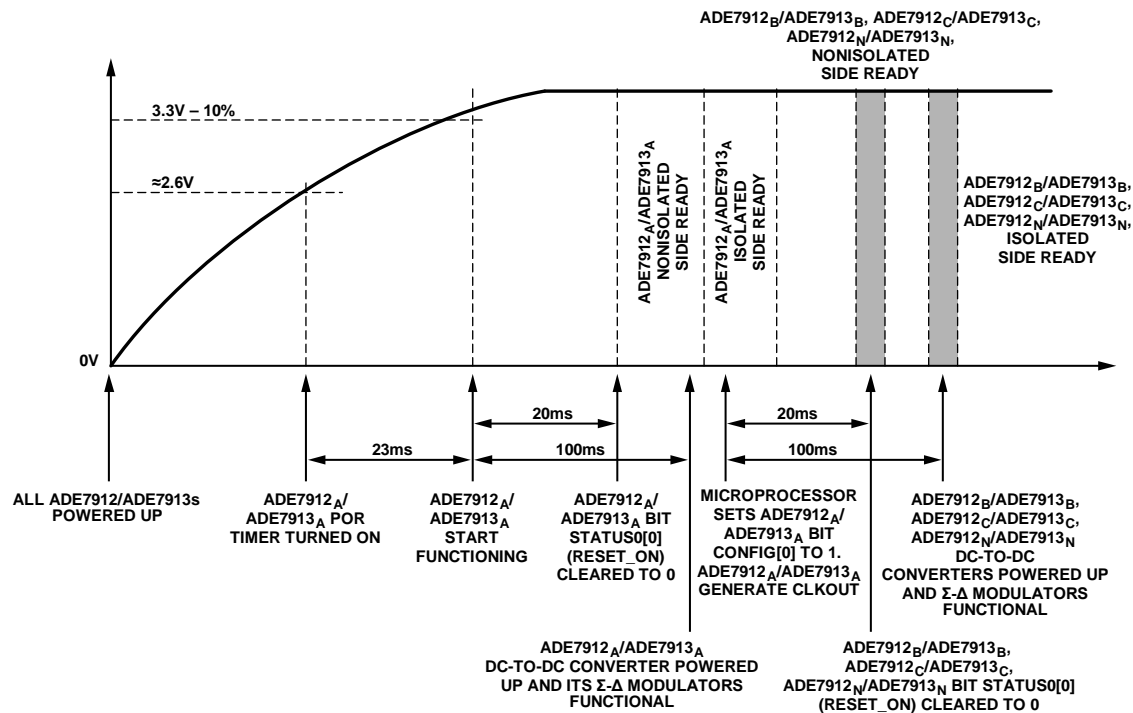

Figure 52. Power-Up Procedure for Systems with Multiple ADE7912/ADE7913 Devices; Only Phase A ADE7912/ADE7913 Are Clocked from a Crystal
For the polyphase energy meters shown in Figure 34, Figure 36, and Figure 37, in which one single crystal is used, the power-up procedure is as follows (see Figure 52):
1. Supply VDD to the ADE7912/ADE7913 devices. To ensure that the Phase A ADE7912/ADE7913 (labeled ADE7912_A/ADE7913_A in Figure 52) device starts functioning correctly, the supply must reach 3.3 V – 10% in less than 23 ms from approximately a 2.6 V level. The ADE7912_A/ADE7913_A device is clocked by the 4.096 MHz crystal and starts functioning. The other ADE7912/ADE7913 devices are not clocked yet.
8. Initialize the CONFIG register of all remaining ADE7912/ADE7913 devices. Select one ADE7912/ADE7913 device (Phase C ADE7912/ADE7913 in Figure 34, Figure 36, and Figure 37 examples; labeled ADE7912_C/ADE7913_C in Figure 52) and connect the CLKOUT/DREADY pin to an external interrupt I/O pin of the microcontroller. ADE7912_C/ADE7913_C must have Bit 0 (CLKOUT_EN) in the CONFIG register left at the default value of 0 to use the DREADY functionality of the CLKOUT/DREADY pin.